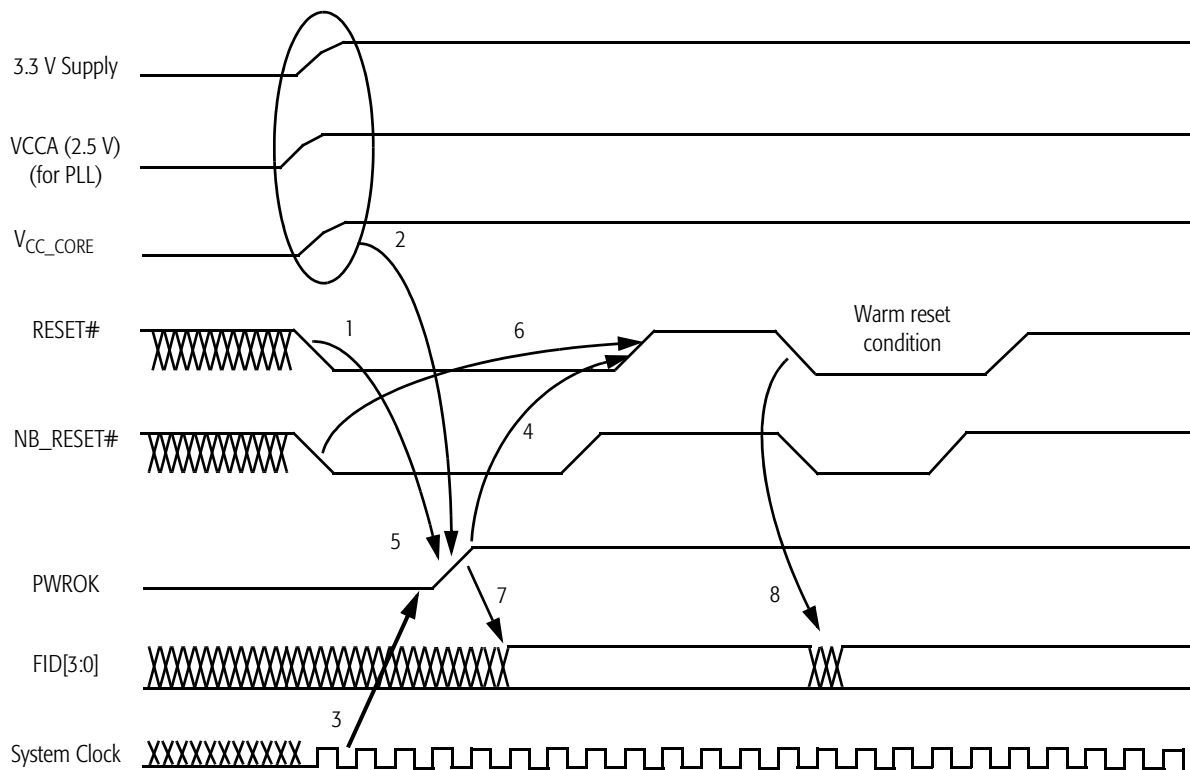

Figure 13. Signal Relationship Requirements During Power-Up Sequence
Figure 13 shows the relationship between key signals in the system during a power-up sequence. This figure details the requirements of the processor.
Notes: 1. Figure 13 represents several signals generically by using names not necessarily consistent with any pin lists or schematics.
2. Requirements 1–8 in Figure 13 are described in “Power-Up Timing Requirements” on page 46.